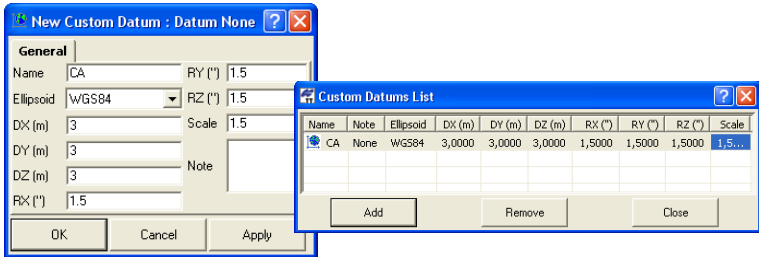

Figure 2-22. New Custom Datum
3. On the *New Custom Datum* dialog box, enter the following information and click **OK** (Figure 2-22). Enter the DX/DY/DZ, RX/RY/RZ, and Scale parameters with respect to the WGS84 datum.